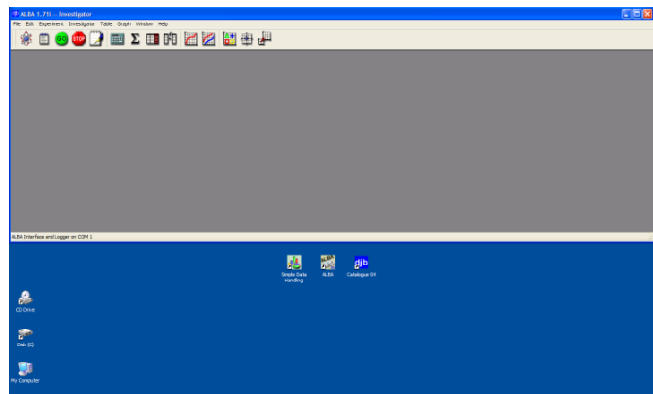

Figure 96
Step 4: Click the Restore Down icon (middle icon at the top right of window) and resize the window so that it fills the top half of the screen - Figure 96.